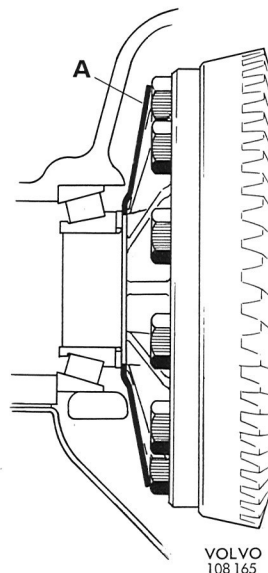
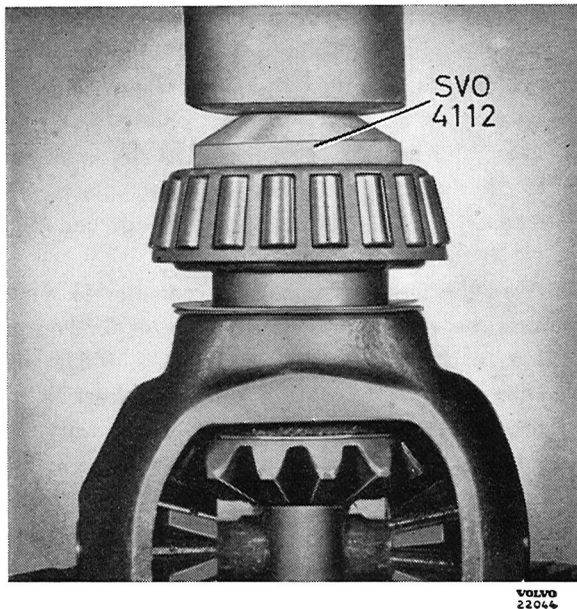

Fig. 4-180. Lock cover for ring gear bolts
Fig. 4-181. Installing differential bearings
4. Install the shims on the differential carrier and press on the bearings. Do not forget the lock cover for the ring gear bolts, see Fig. 4-180. Use drift 4112. see Fig. 4-181.